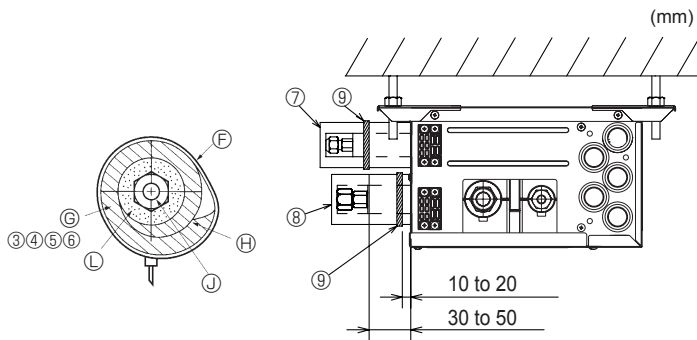
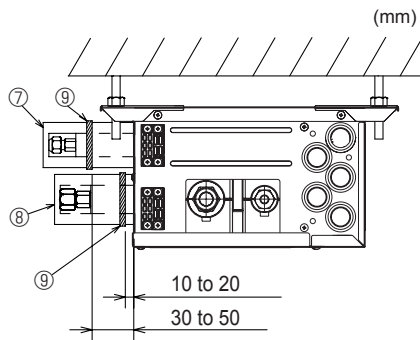

Fig. 7-3
Fig. 7-4
- (1) Remove the flared nuts and caps from the branch box.
- (2) Flare the ends of the liquid and gas piping, and apply refrigeration oil (procure locally) to the flared seat. Do not apply oil to the threaded portion.
- (3) Connect the refrigerant piping immediately. Always tighten the flared nuts to the torque specified in the table 2 using a torque wrench and double spanner.
- (4) Press the pipe covers ③ and ⑤ on the liquid piping against the unit and wrap to hold in place. (Fig. 7-3)
- (5) Press the pipe covers ④ and ⑥ on the gas piping against the unit and wrap to hold in place. (Fig. 7-3)
- (6) Apply the supplied bands ⑨ at a position 10 - 20 mm from each end of the pipe covers (③④⑤⑥).
- (7) If the indoor unit is not connected, fit the supplied pipe covers (with caps, ⑦ and ⑧) to the branch box refrigerant piping connections against the unit to prevent condensation dripping from the pipes. (Fig. 7-4)
- (8) Clamp the pipe covers (⑦⑧) in place with the supplied bands ⑨.
- Ⓕ Band ⑨
- Ⓖ Pipe covers ③④⑤⑥
► Use the following procedures for indoor connection part which indoor unit is not connected. (Fig. 7-4)
- (1) In order to prevent refrigerant leaks, make sure that the flare nuts are tightened according to the specified torques\* in Table 3.